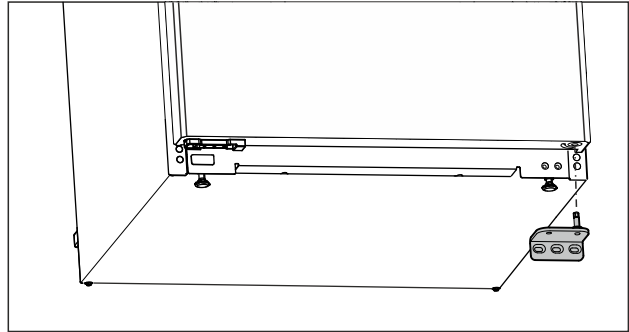

Fig. 16
- ▶ Remove the swap bearing block downwards. (see Fig. 16)